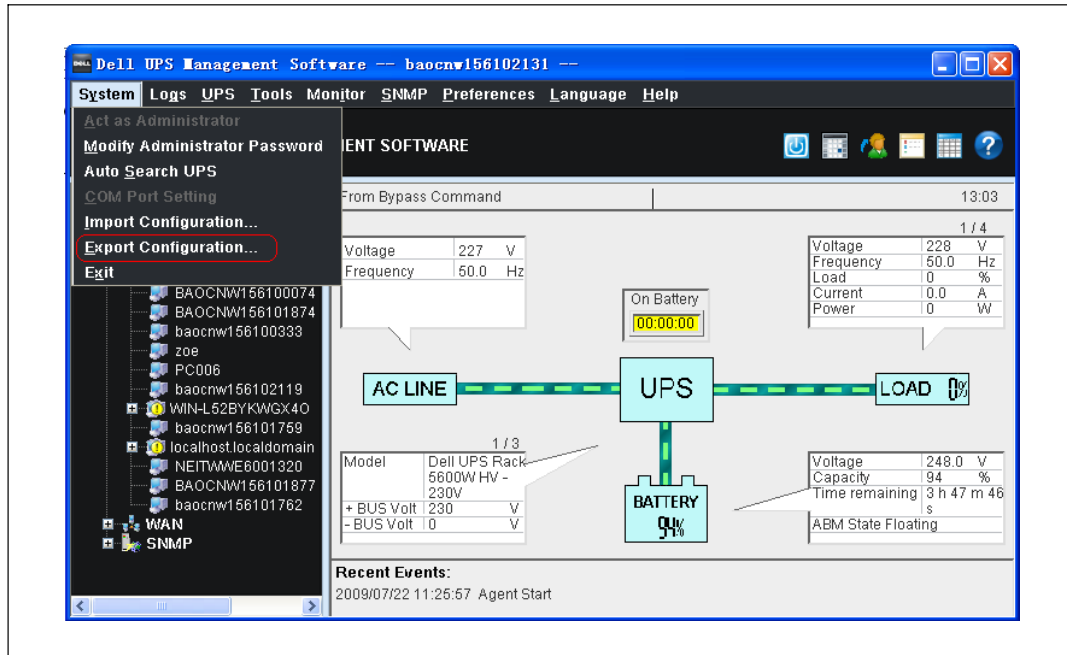

Figure 104. Export Configuration
- 1 From the configured Agent, select **Export Configuration** from the **System** menu (see Figure 104).